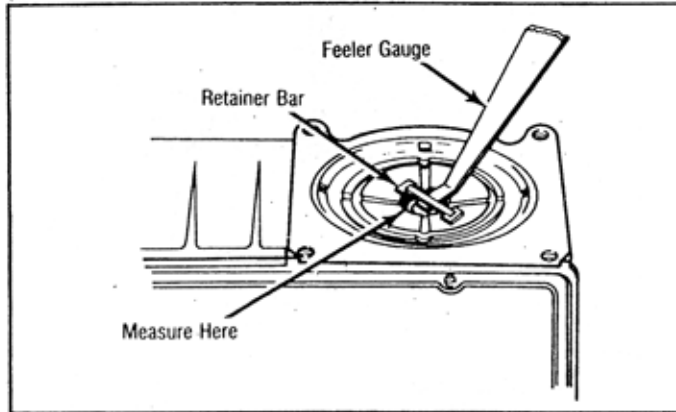

Fig. 5 Accelerator Pump Inlet Check Ball Clearance (Models With Check Ball Retainer Bar Only)
1. Remove float bowl and turn upside down. Measure specified clearance between check ball and retainer bar with a feeler gauge. Specified clearance for all models is .015". See Fig. 5.